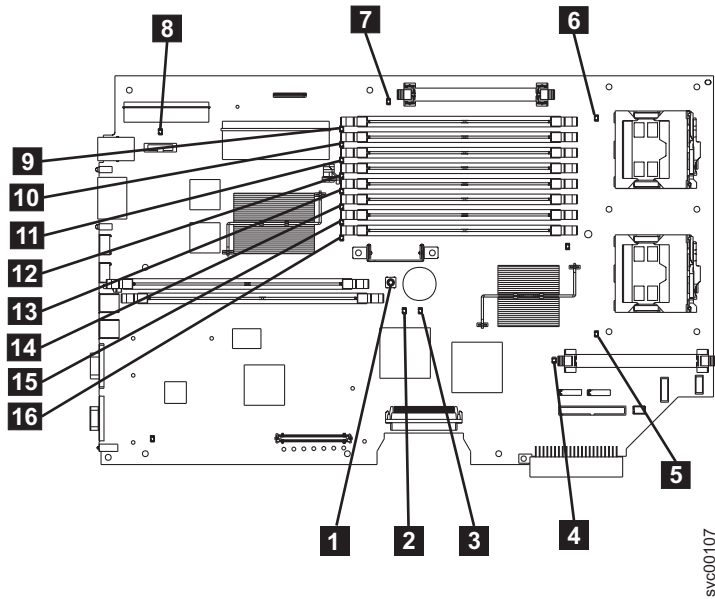

Figure 95. SAN Volume Controller 2145-8F2 and SAN Volume Controller 2145-8F4 system board LEDs
**YES** Refer to Table 37 on page 406 and perform the action specified for the specific light path diagnostics LEDs, then go to step 3 on page 408. Some actions will require that you observe the state of LEDs on the system board or on the fan backplanes. The location of the system board LEDs are shown in Figure 95 on page 406. The fan LEDs are located adjacent to each FAN. To view the LEDs you will need to do the following:
- d. Press the light path diagnostics button **1**. See Figure 95 on page 406.